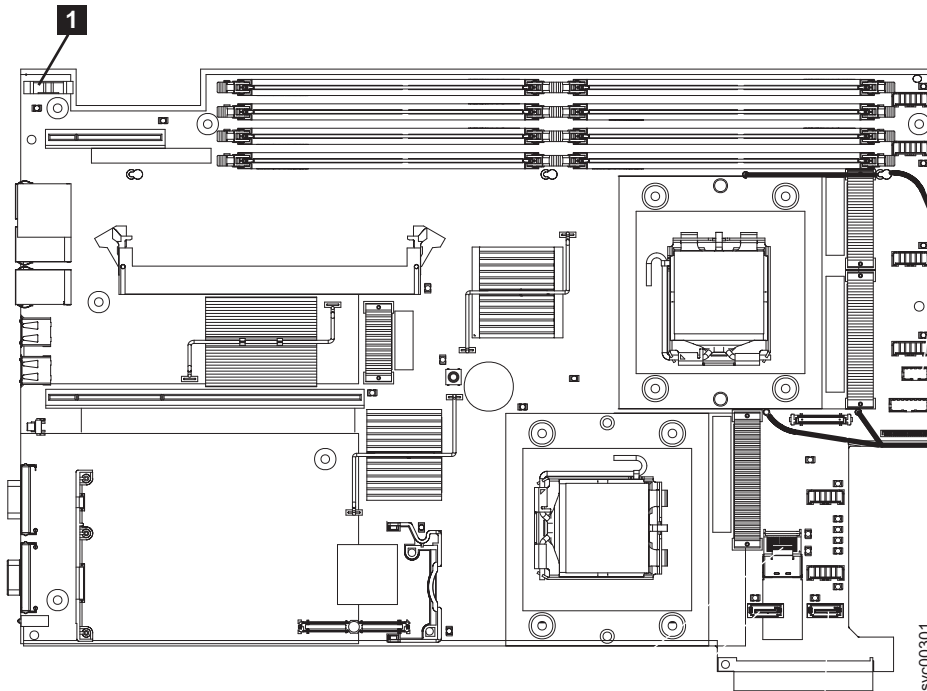

Figure 142. Location of the SAN Volume Controller 2145-8G4 CMOS battery holder
2. Locate the battery on the system board. Figure 142 on page 158 shows the location (**1**) of the battery.